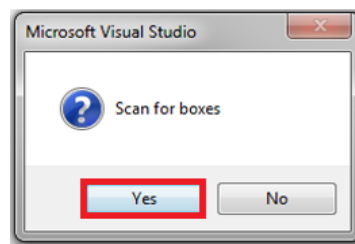

Figure 13: scan slave devices
- b. Scan the slave devices (Figure 13).